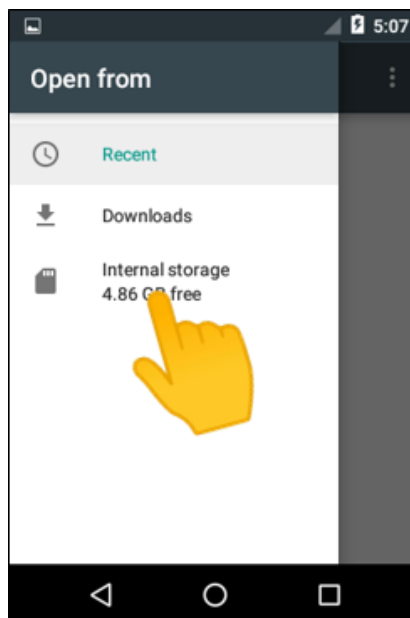

Figure 96: Tap Show internal storage
15. Tap **Internal Storage** (see **Figure 96**).